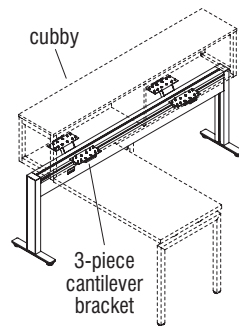

Figure 39
- Standard rail cubbies include required rail attachment cantilever brackets and installation hardware (Figure 39).
- Standard rail cubbies must be mounted at the end of the standard rail assembly, at the location of the perpendicular return (Figures 39, 40, 41, & 42).